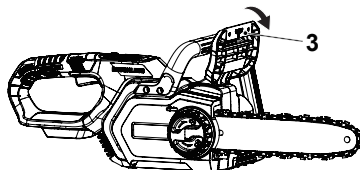

Fig. 17 Engage chain brake
**Engage chain brake:** When the chain brake lever (3) is in the engaged position, the saw chain is stopped as soon as the chain brake is activated (Fig. 17).